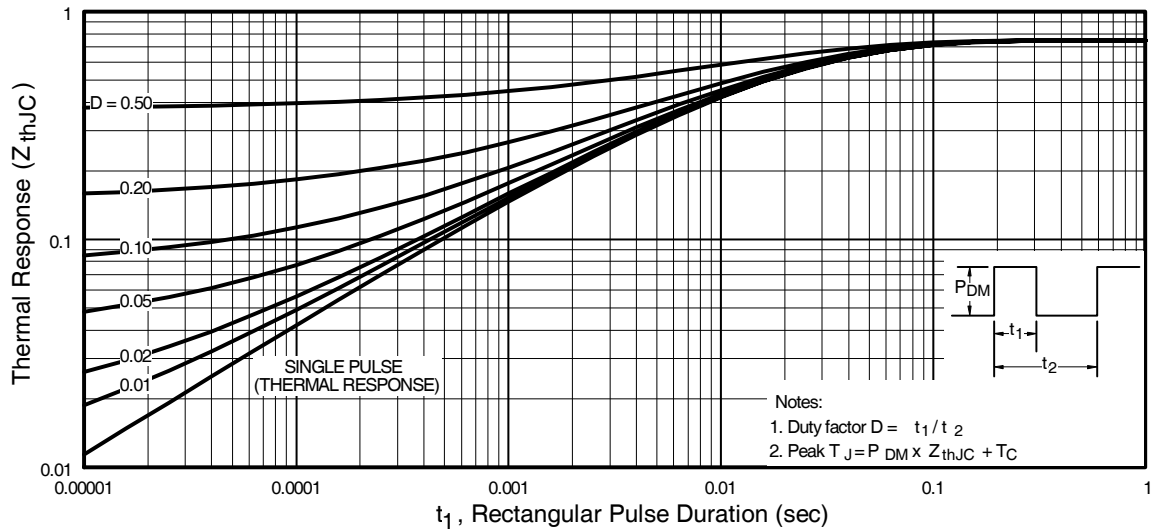

Fig 11. Maximum Effective Transient Thermal Impedance, Junction-to-Case
① Repetitive rating; pulse width limited by max. junction temperature. (See fig. 11)
② $V_{DD} = 25V$, starting $T_J = 25^\circ\text{C}$, $L = 2.4\text{mH}$